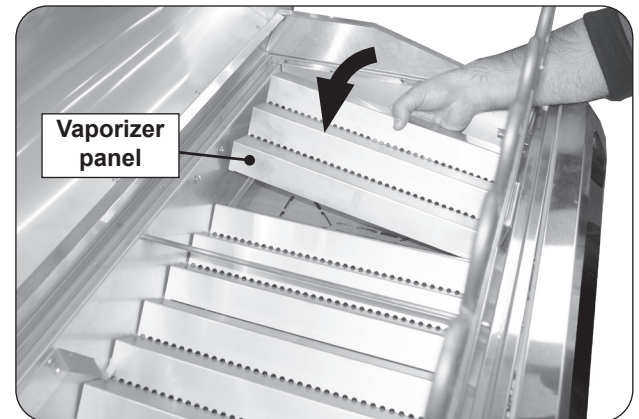

Fig. 25-2 Install vaporizer panels
3. With the support bracket removed, carefully place the vaporizer panels down into the electric grill as shown in Fig. 25-2.